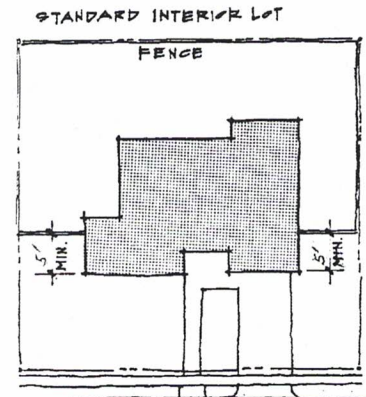

Figure 6
Interior Lots: Fence must be set back at least five (5) feet from the front of the home. A "good neighbor" fence policy is required. Alternating sections are to occur at regular fence post intervals only, so that an entire panel is dedicated to one lot and the following panel is dedicated to the adjacent lot and so forth. In this manner, both lots receive approximately the same exposure to finished sides of a picket fence structure (Figure 6).